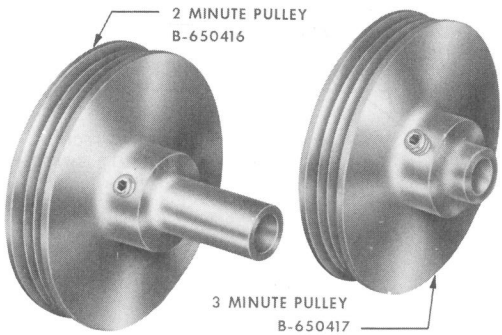

Fig. 8—Drive Pulleys
2.10 The B-650417 3-minute pulley (Fig. 8) is used to increase the maximum announcement recording capacity from 2 to 3 minutes. The 3-minute pulley reduces the angular speed of the recording drum, thereby increasing the announcement capacity.
2.11 As shown in Fig. 8 the 3-minute pulley differs from the 2-minute in that the smaller diameter extension is not provided and hence, the flat drive belt is driven directly from the shaft.